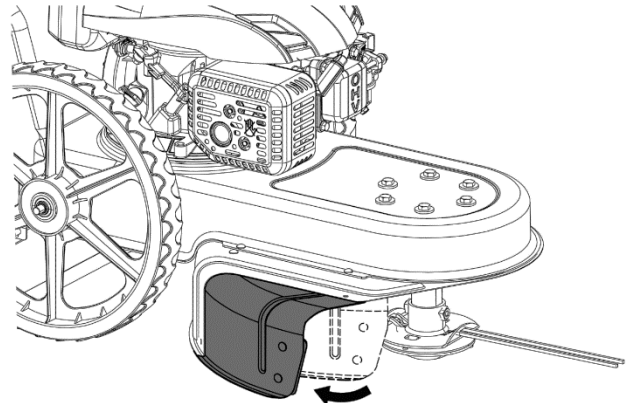

Fig. 4
1. Install the protective shield in the working position as shown in Fig. 4.